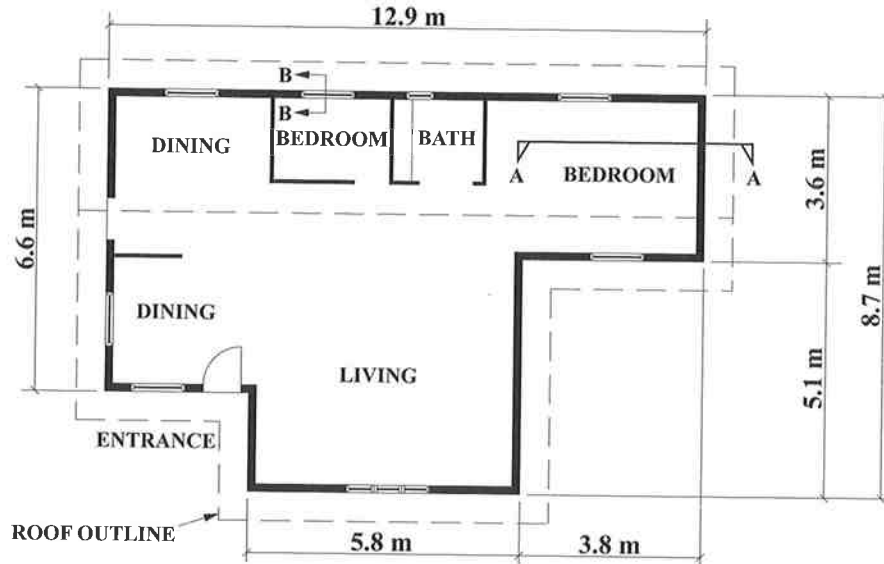
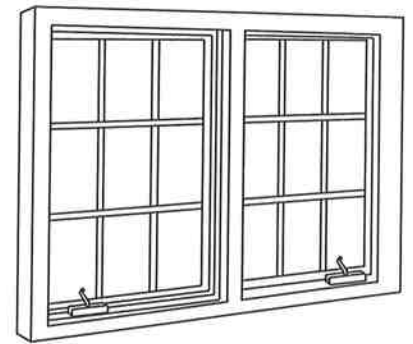

Figure 1. Floor plan
Figure 2. Window
1. Figure 1 shows the floor plan of a dwelling house which measures 12.9 m long and 8.7 m wide. The external walls are built of 150 mm hollow concrete blocks (plastered on both sides.) The partition walls and floor are constructed of timber. The floor joists are 250 mm × 50 mm and floor boards are 150 mm × 25 mm tongued and grooved. The window at B – B on the plan view is constructed of wood and is of the type shown in Figure 2. The external doors are of the four flat panel type with flush planted moulds and the internal doors are of the flush type. The building is covered with a gable roof; the position of the roof is outlined on the plan by the broken lines. The overhang is 300 mm all around.
- (a) (i) Produce a neat sketch of the vertical section of the wall and THREE joists at A – A on the floor plan in Figure 1 to show the arrangement of the members of the timber floor. **(5 marks)**
- (b) (i) Sketch a neat vertical section at B – B as indicated on the floor plan in Figure 1 to show details of the window and frame in the concrete wall opening. **(7 marks)**
- (c) (i) Use a single line sketch to reproduce the shape of the external walls of the building and produce a complete roof framing plan view of the gable roof as outlined in Figure 1. **(8 marks)**
- (d) (i) State THREE functions of the external door as indicated on Figure 1. **(3 marks)**
- (iii) Name THREE types of ironmongery designed for use on the window in Figure 2. **(3 marks)**